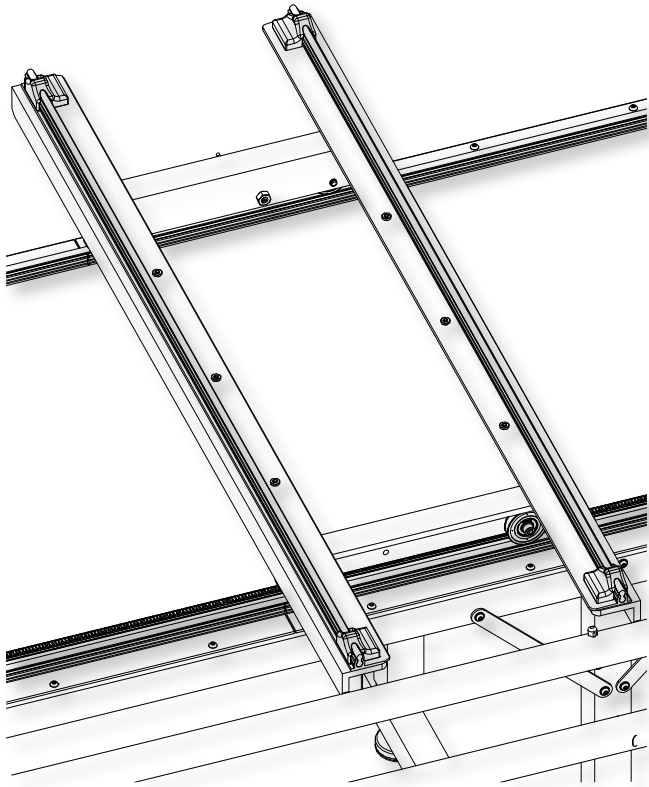

Figure 3
1. Place the carriage, wheels down, on the table rails, ensuring that the Carriage Encoder Assembly (small black box) is positioned on the opposite side from the frame poles. Be sure to place the carriage on the frame correctly (see Figure 3).